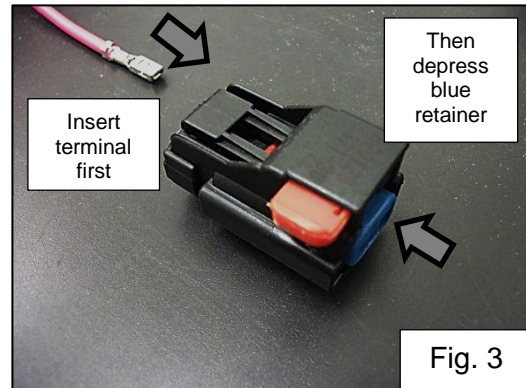

Fig. 3
5. Install the black two pin power connector on the subwoofer power harness by first inserting the terminal fully into the connector and then depressing the blue retainer. Fig. 3